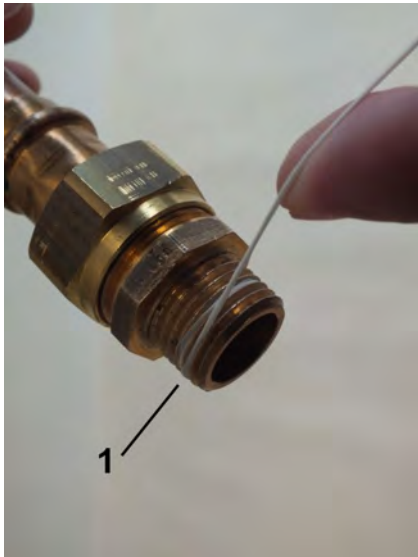

Fig. 9: Apply sealing thread
- 2. →** Apply sealing thread (Fig. 9/1) to the napped area in the threaded direction. Observe the quantity recommended by the sealant manufacturer.